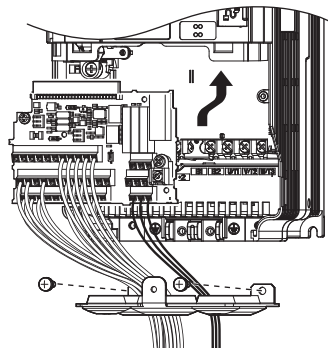

Figure 94 Drive Replacement: Installing the Control Terminal Board
1. After wiring the main circuit, connect the terminal block to the drive as shown in Figure 94. Use the installation screw to fasten the terminal block into place.